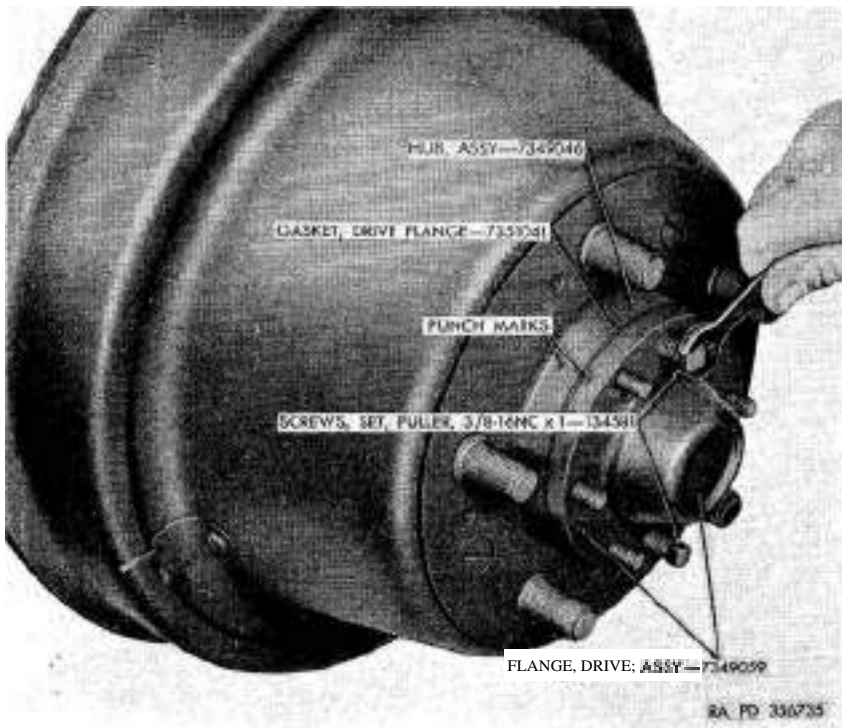

Figure 45. Removing drive flange assembly.
- a. *Remove Drive Flange Assemblies (fig. 45).*
- (1) Apply punch marks on drive flange assemblies and hub assemblies with a center punch and hammer.